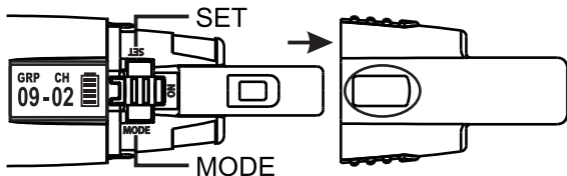

Fig. 5
1. Remove protection rear cover to expose MODE and SET buttons, Fig. 5.